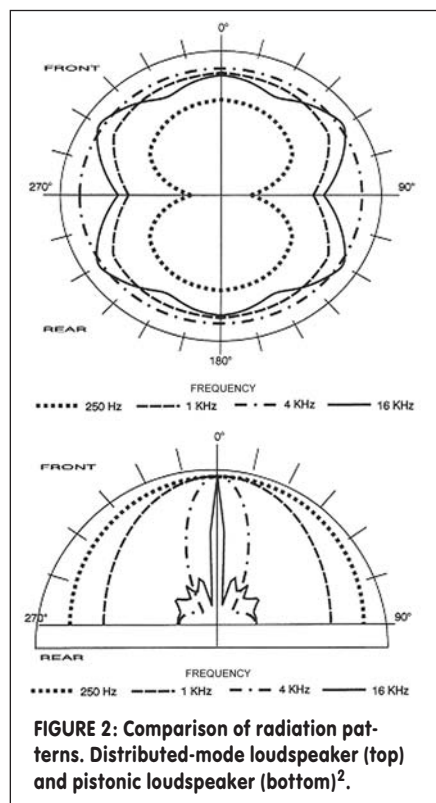

FIGURE 2: Comparison of radiation patterns. Distributed-mode loudspeaker (top) and piston speaker (bottom)².
- Wide directivity—Compared to piston speakers, the DML displays wide directivity (Fig. 2), which is generally independent of frequency.